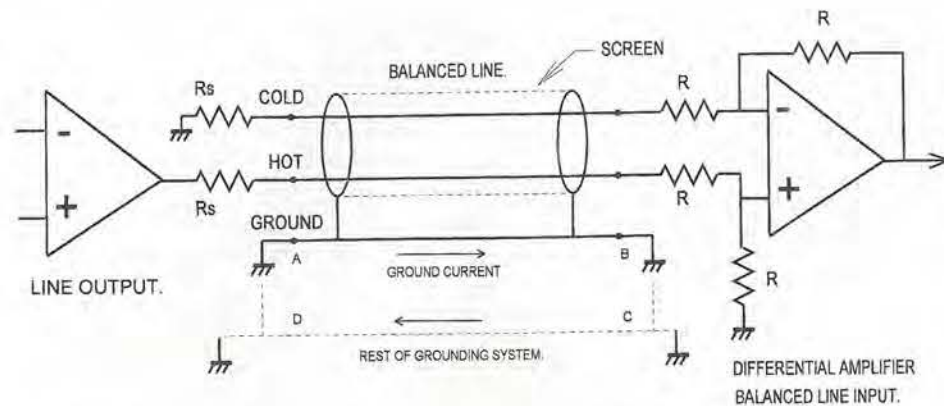

Fig. 3. Ground-voltages coupling into a signal cable. The ground voltage between A and B is due to ground currents flowing around ABCD.
**Common-impedance coupling.** Ground voltages coupled in through the common ground impedance; often called 'common-impedance coupling' in the literature.3 This is the root of most ground loop problems. In Fig. 3 the equipment safety grounds cause a loop ABCD; the mere existence of a loop in itself does no harm, but it is invariably immersed in a 50Hz magnetic field that will induce mains-frequency current plus odd harmonics into it.